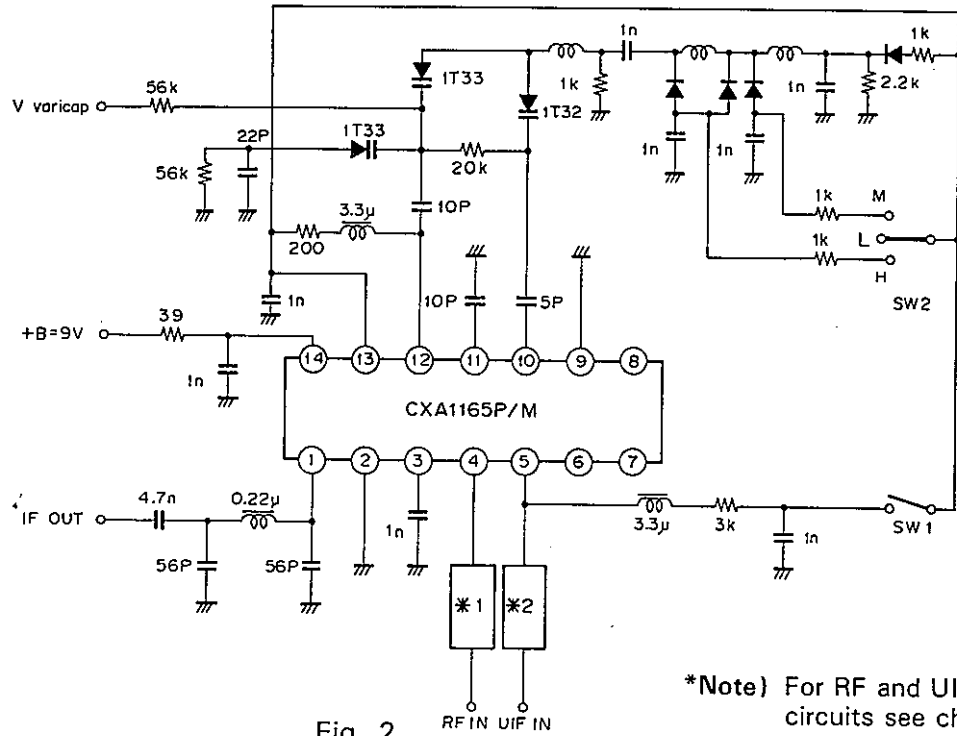

Fig. 2
AC characteristics test circuit See Fig. 2.
**Operation description (For AC characteristics test circuit, See Fig. 2)****1) Voltage power supply circuit**